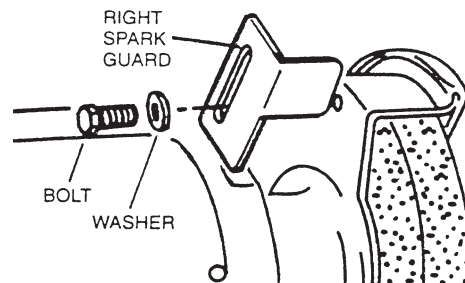

FIGURE 2
- a. Select spark guards (17 and 18), washer and bolt. Install the right spark guard to the wheel guard as shown in Figure 2.
Note: There is a left and right spark guard. Refer to Figure 2 to be certain that you install them correctly.